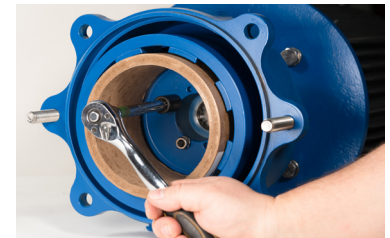

figure 14
- Remove the two M8 hex nuts and lock washers (Items 24 & 26) & M8 hex head bolts and lock washers (Items 25 & 26). Pull the magnet drive hub (Item 11A) away from the shaft adapter (Item 11B). If the magnet drive hub is difficult to remove, you can thread (2) M8 hex head bolts (item 25) into the extra set of holes to use as jackscrews to pry it off. Make sure to apply equal turns to the bolts to pull the magnet drive hub off evenly. See figure 14.